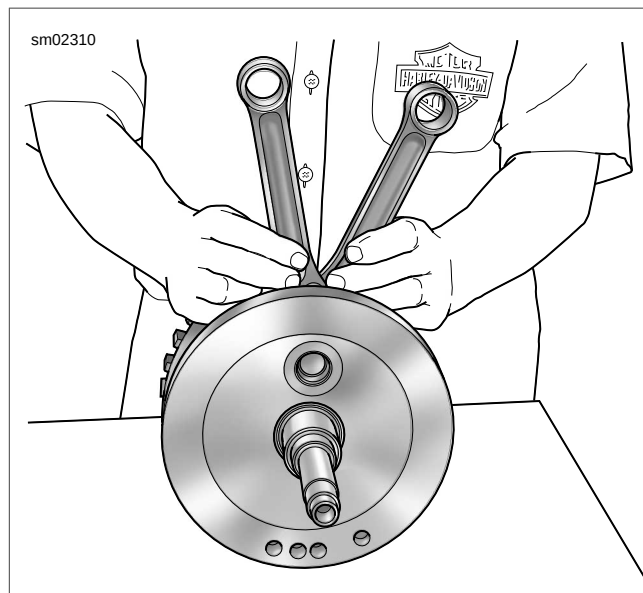

Figure 3-147. Connecting Rod Bearing Clearance
2. Check connecting rod bearing clearance. Orient the assembly as shown in Figure 3-147.